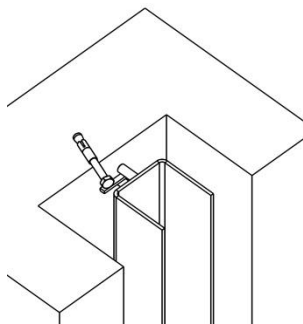

Fig.7
- Depending on size and weight of Water Control Gate, 2-3 dowels per side should be set into the recess and bolts be inserted (Fig.7).
- Connect anchor and dowel bolts in the recess with a bar profile by welding (Fig. 7).